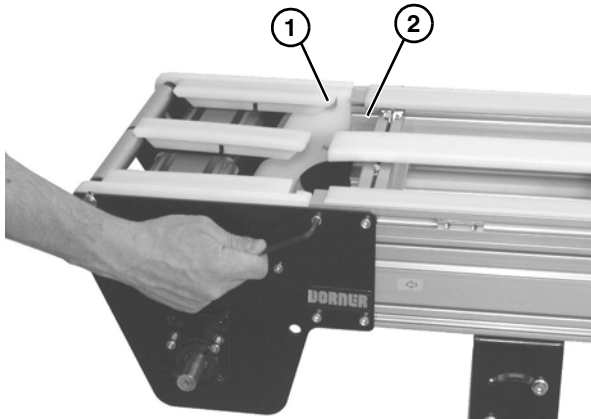

**Figure 34**
14. Check drive terminal assembly (**Figure 34, item 1**) for wear. If worn, remove two low head cap screws (**Figure 34, item 2**) and low head cap screw (**Figure 34, item 3**) and replace.